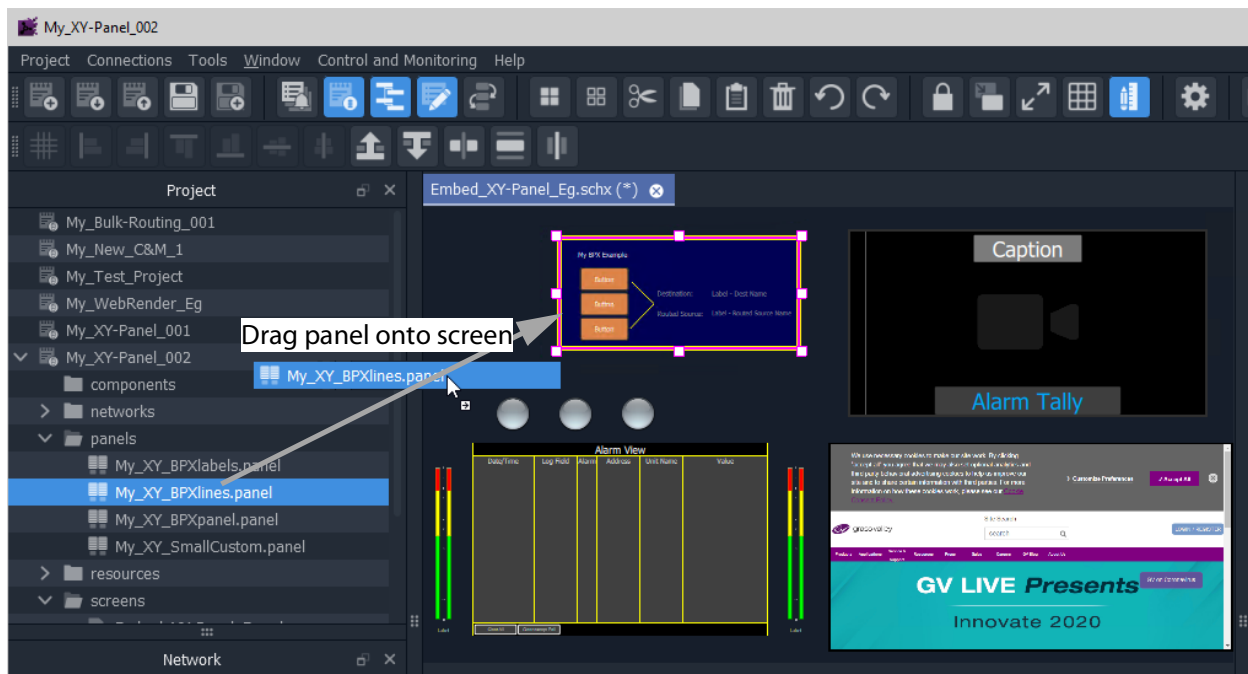

Fig. 6-65: Drag on an XY Panel
- 6 Drag an XY panel from the **Project** window onto the C&M project screen. and release. See Figure 6-65.